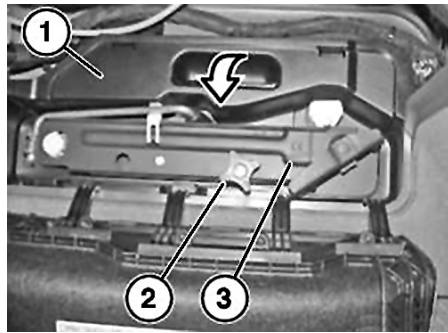

Fig. 3 Jack removal
5. Remove screw (2), **Fig. 3**.
6. Remove vehicle jack (3), **Fig. 3**.
7. Fold back battery cover (1) in direction of arrow, **Fig. 3**.
9. Fold back battery cover (1), **Fig. 3**.